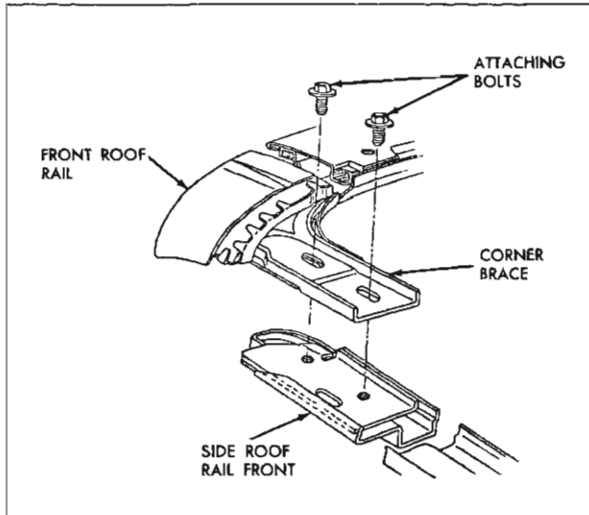

Fig. 21-22 Front Roof Rail Corner Brace Adjustment
2. Loosen corner brace attaching bolts and adjust front roof rail fore or aft as required. Repeat on opposite side if necessary (Fig. 21-22).